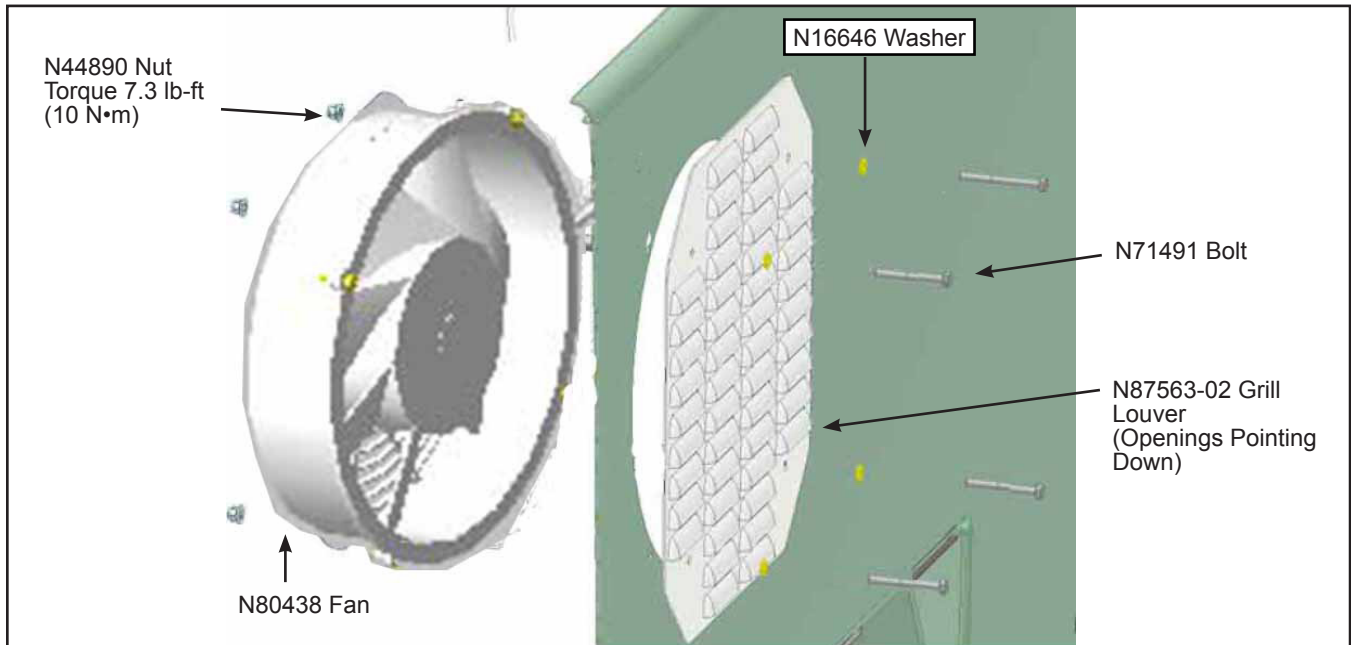
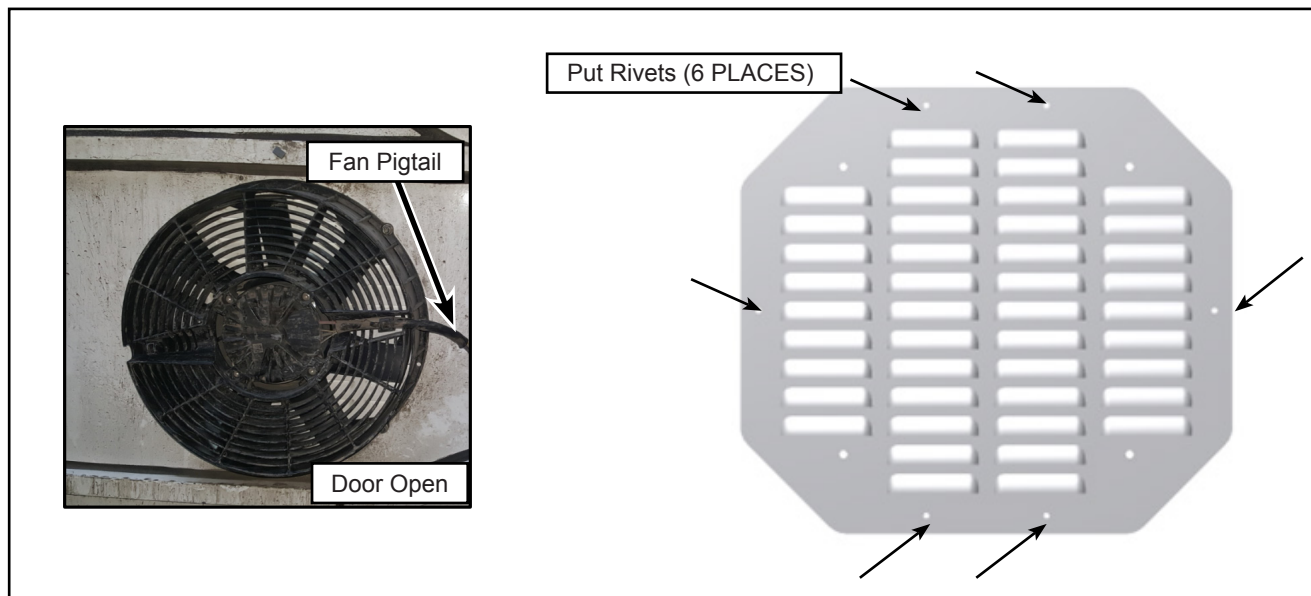

Figure 3 - Installation of the Grill Louver and Electrical Fan
Figure 4 - Installation of Electrical Fan and the Six Grill Louver Rivets
- 1.7. Place the engine fan N80438 on the inside to position the wiring pigtail on the right hand side, towards the center of the engine door. Install the four N71491 bolts, N16646 washers and N44890 nuts using 5/32" hex socket, a 10mm socket wrench and a torque wrench (see Figure 3 and Figure 4).
- 1.8. Torque the nuts to 7.3 lb-ft (10 N•m) and apply torque seal. Install the six rivets in the holes present on the grill louver (see Figure 3 and Figure 4).